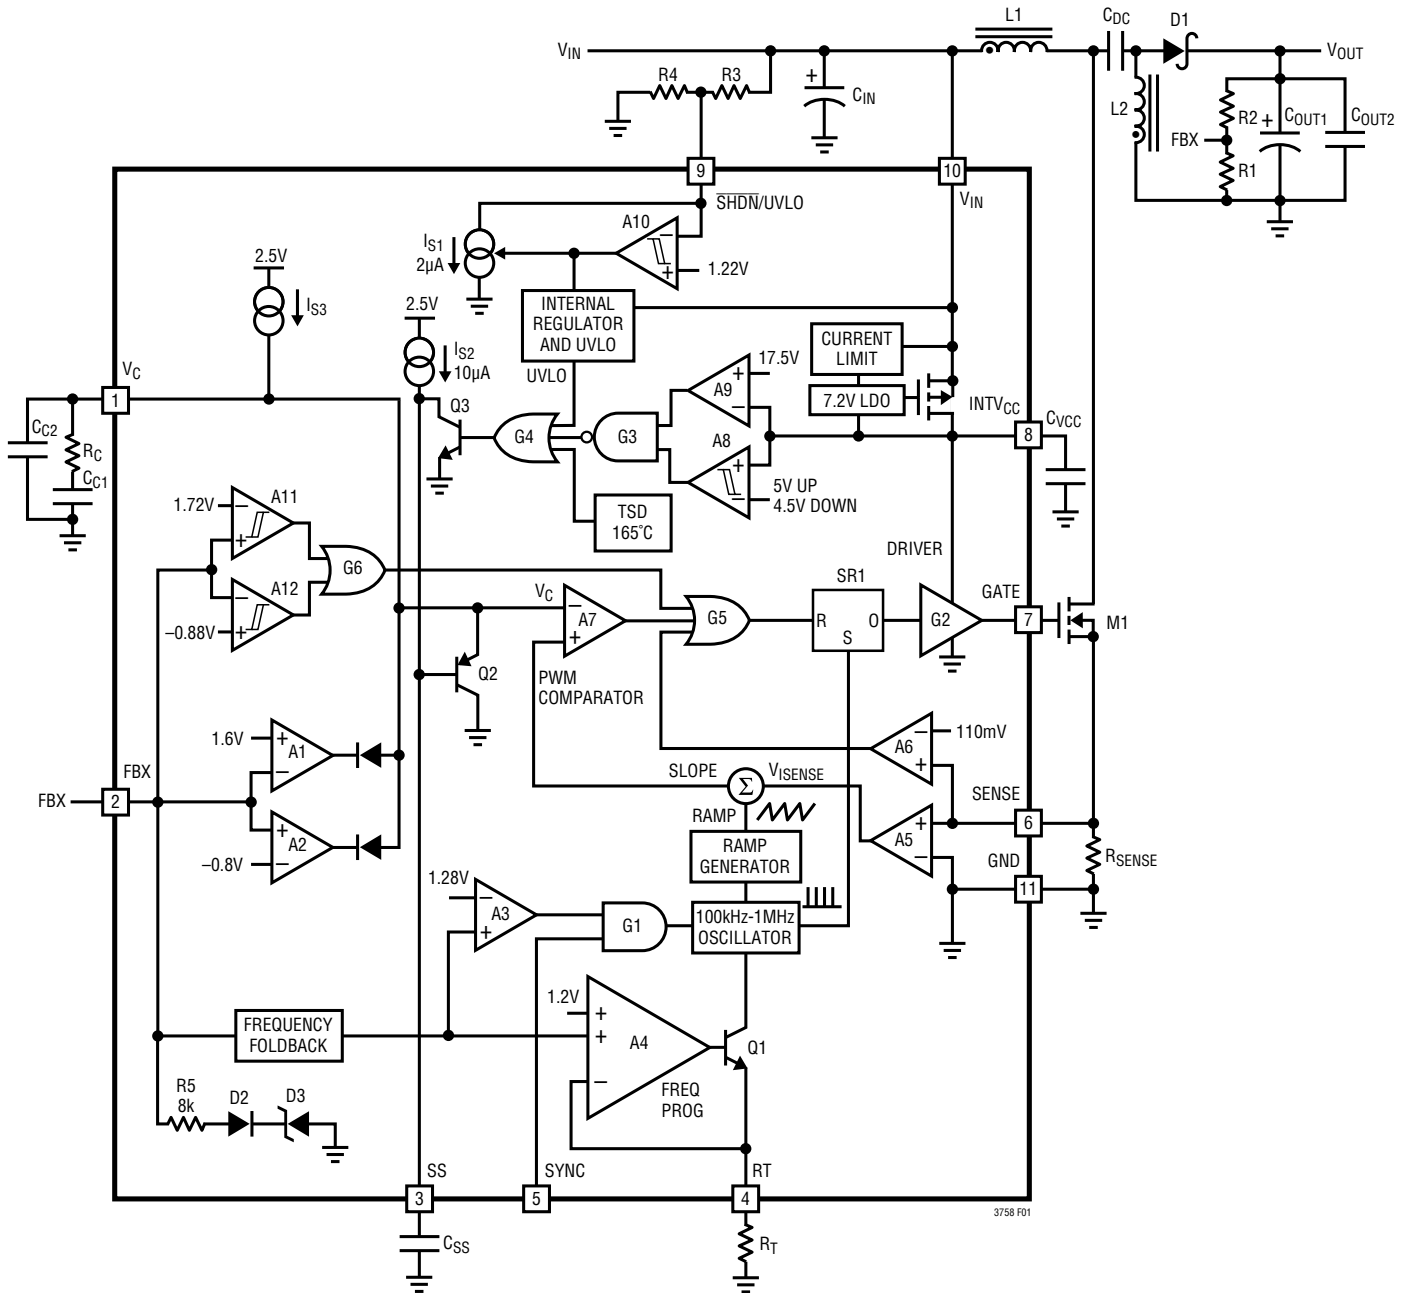

Figure 1. LT3758 Block Diagram Working as a SEPIC Converter
The LT3758 uses a fixed frequency, current mode control scheme to provide excellent line and load regulation. Operation can be best understood by referring to the Block Diagram in Figure 1.
The LT3758 is capable of generating either positive or negative output voltage with a single FBX pin. It can be configured as a boost, flyback or SEPIC converter to generate positive output voltage, or as an inverting converter to generate negative output voltage. When configured as a SEPIC converter, as shown in Figure 1, the FBX pin is pulled up to the internal bias voltage of 1.6V by a voltage divider ( $R1$  and  $R2$ ) connected from  $V_{\text{OUT}}$  to GND. Comparator A2 becomes inactive and comparator A1 performs the inverting amplification from FBX to  $V_C$ . When the LT3758 is in an inverting configuration, the FBX pin is pulled down to -0.8V by a voltage divider connected from  $V_{\text{OUT}}$  to GND. Comparator A1 becomes inactive and comparator A2 performs the noninverting amplification from FBX to  $V_C$ .
The purpose of this current is to allow the user to program the rising hysteresis. The Block Diagram of the comparator and the external resistors is shown in Figure 1. The typical falling threshold voltage and rising threshold voltage can be calculated by the following equations:
An internal, low dropout (LDO) voltage regulator produces the 7.2V INTVCC supply which powers the gate driver, as shown in Figure 1. The LT3758 contains an undervoltage lockout comparator A8 and an overvoltage lockout comparator A9 for the INTVCC supply. The INTVCC undervoltage (UV) threshold is 4.5V (typical), with 0.5V hysteresis, to ensure that the MOSFETs have sufficient gate drive voltage before turning on. The logic circuitry within the LT3758 is also powered from the internal INTVCC supply.
The choice of operating frequency may be determined by on-chip power dissipation, otherwise it is a trade-off between efficiency and component size. Low frequency operation improves efficiency by reducing gate drive current and MOSFET and diode switching losses. However, lower frequency operation requires a physically larger inductor. Switching frequency also has implications for loop compensation. The LT3758 uses a constant-frequency architecture that can be programmed over a 100kHz to 1000kHz range with a single external resistor from the  $RT$  pin to ground, as shown in Figure 1. The  $RT$  pin must have an external resistor to GND for proper operation of the LT3758. A table for selecting the value of  $R_T$  for a given operating frequency is shown in Table 1.
The output voltage  $V_{OUT}$  is set by a resistor divider, as shown in Figure 1. The positive and negative  $V_{OUT}$  are set by the following equations:
In the applications where  $V_{OUT}$  is pulled up by an external positive power supply, the FBX pin is also pulled up through the R2 and R1 network. Make sure the FBX does not exceed its absolute maximum rating (6V). The R5, D2, and D3 in Figure 1 provide a resistive clamp in the positive direction. To ensure FBX is lower than 6V, choose sufficiently large R1 and R2 to meet the following condition:
The LT3758 addresses this mechanism with the SS pin. As shown in Figure 1, the SS pin reduces the power MOSFET current by pulling down the  $V_C$  pin through Q2. In this way the SS allows the output capacitor to charge gradually toward its final value while limiting the start-up peak currents. The typical start-up waveforms are shown in the Typical Performance Characteristics section. The inductor current  $I_L$  slewing rate is limited by the soft-start function.
load transient response, when compared to the LT3758. New internal circuits ensure that the transient from not switching to switching at high current can be made in a few cycles. The optimum values depend on the converter topology, the component values and the operating conditions (including the input voltage, load current, etc.). To compensate the feedback loop of the LT3758/LT3758A, a series resistor-capacitor network is usually connected from the  $V_C$  pin to GND. Figure 1 shows the typical  $V_C$  compensation network. For most applications, the capacitor should be in the range of 470pF to 22nF, and the resistor should be in the range of 5k to 50k. A small capacitor is often connected in parallel with the RC compensation network to attenuate the  $V_C$  voltage ripple induced from the output voltage ripple through the internal error amplifier. The parallel capacitor usually ranges in value from 10pF to 100pF. A practical approach to design the compensation network is to start with one of the circuits in this data sheet that is similar to your application, and tune the compensation network to optimize the performance. Stability should then be checked across all operating conditions, including load current, input voltage and temperature.